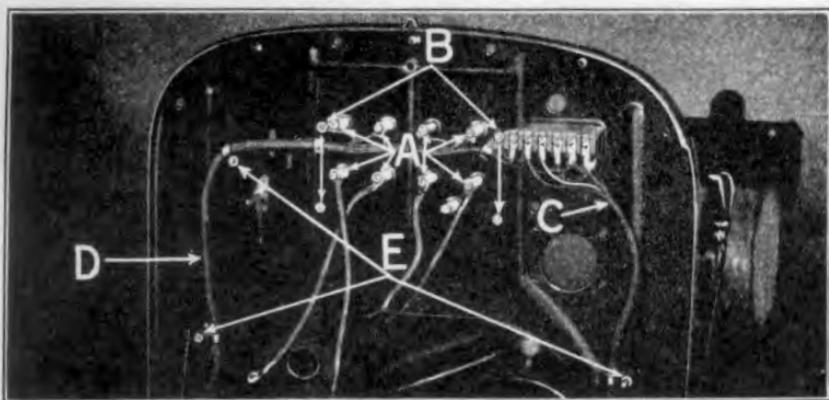

Fig. 39
- 40 **Remove coil box** by running off the eight nuts on ends of coil box terminals (See "A" Fig. 39) and the four coil box bolt nuts "B".